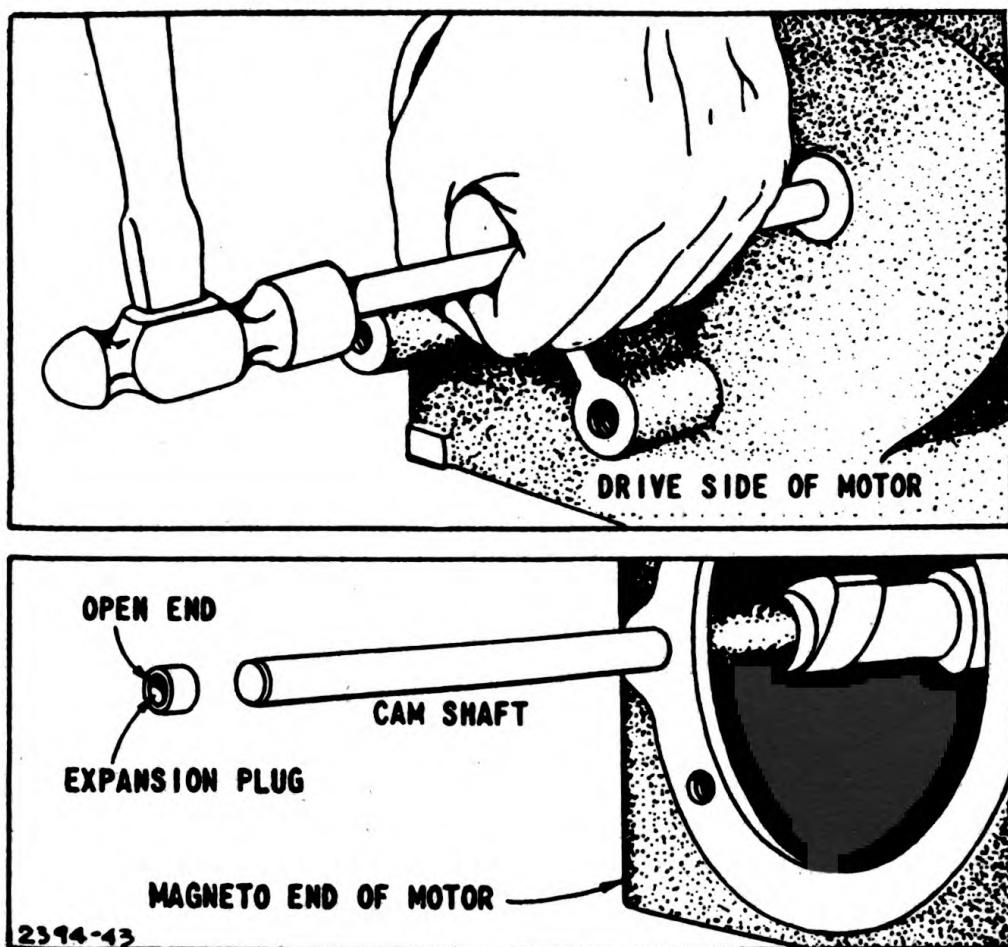

Figure 23.—Removing and replacing cam shaft
h. Remove cam shaft by driving it out of crankcase with a $\frac{5}{16}$ -inch rod or punch from drive side (fig. 23). Be careful not to lose the camshaft plug (part #68122).
- k. To reassemble, reverse above operations. Be sure to install camshaft expansion plug in the hole on the magneto side with the open end out (fig. 23).